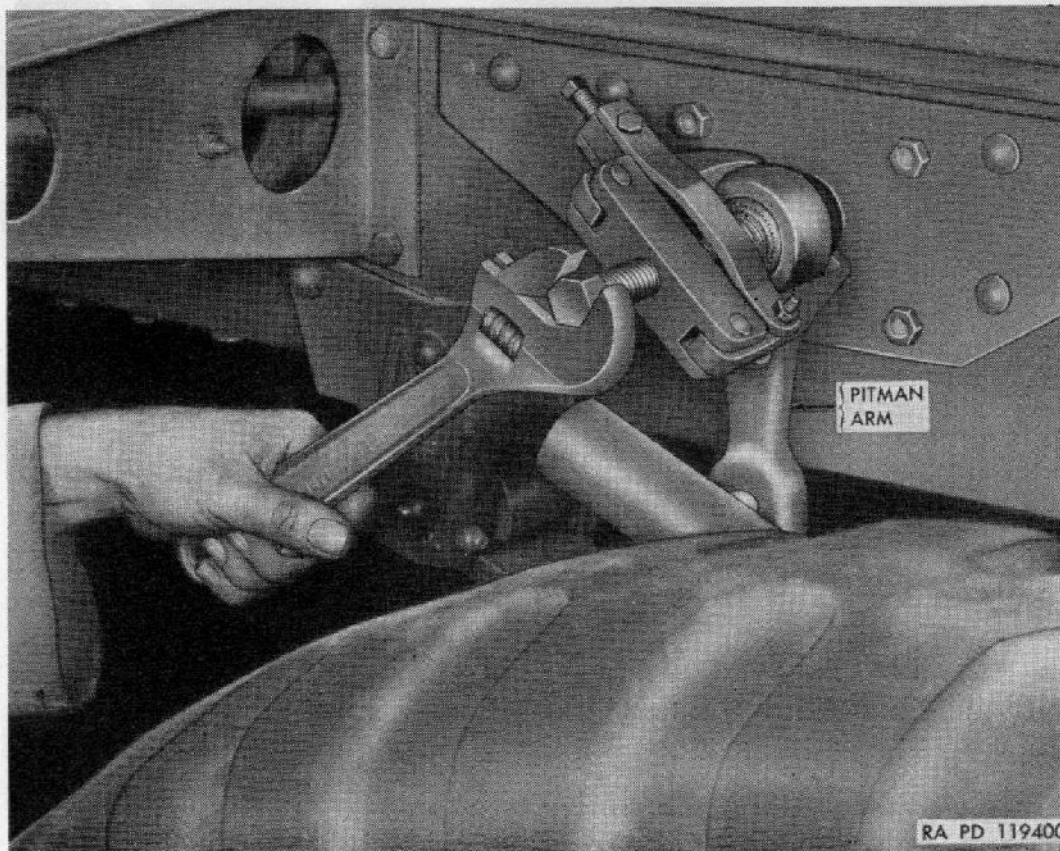

Figure 118. Removing pitman arm with puller 41-P-2952.
c. PITMAN ARM (fig. 118). The pitman arm is a steel forging, broached to fit the splined end of pitman arm shaft. It is held on shaft by a hex nut.
a. REMOVAL (fig. 118).
- (1) Disconnect drag link from pitman arm (par. 172).
- (2) Remove nut and washer holding pitman arm in position. Pull pitman arm from shaft with puller 41-P-2952.